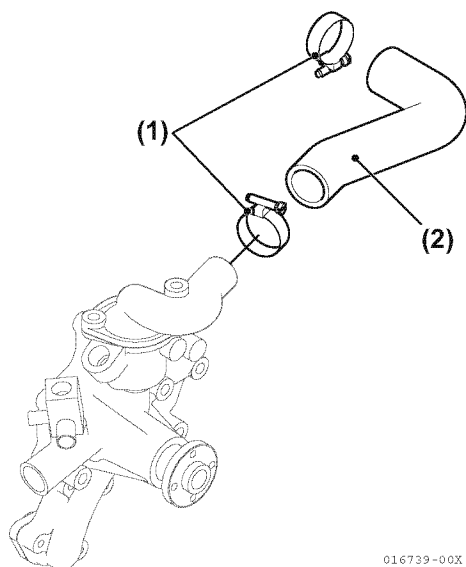

Figure 7-31
2. Release clamps on coolant lines (Figure 7-31, (1)).
3. Disconnect pipe (Figure 7-31, (2)) from coolant pump.